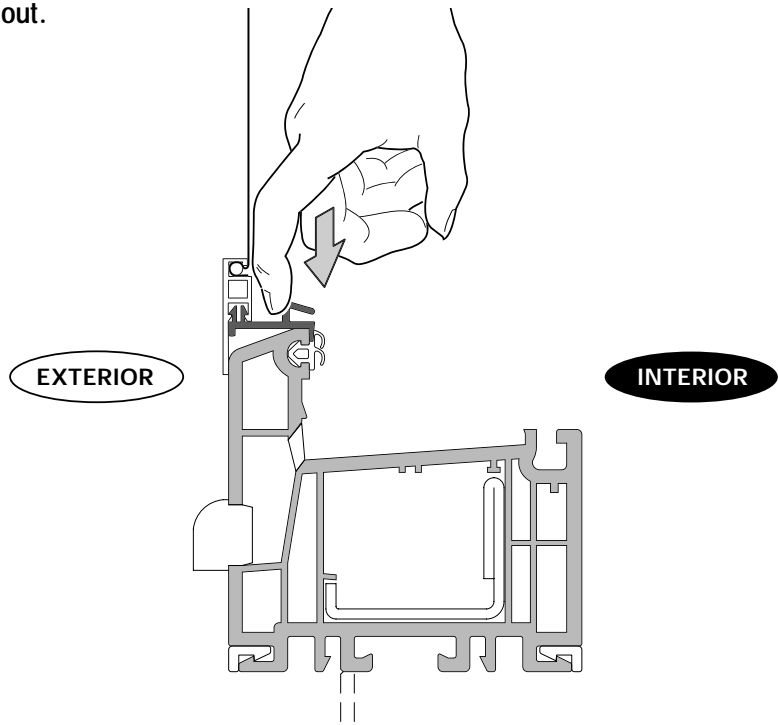

Figure 6-4. Locate clip between frame and seal, press down to locate clip
5. Now tilt in the top of the screen until the clips engage. The side clips may pop into place at the same time. If they don't, pull the clips towards the interior of the room, until they snap into place. The lip of the screen clip should be under the gasket against the frame itself. See fig. 6-4.